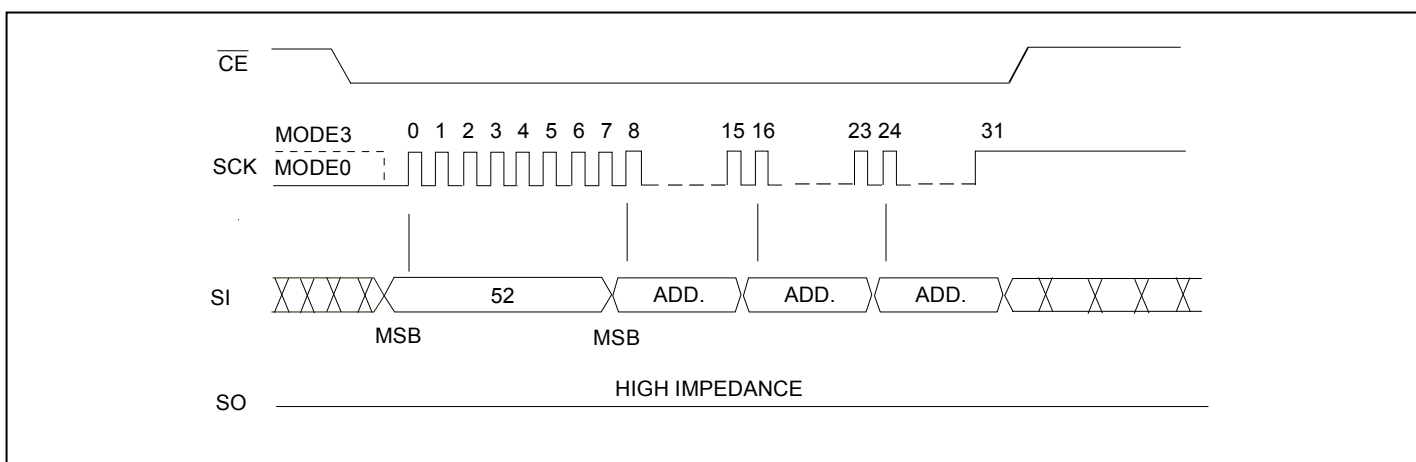

Figure 14: 32K-byte Block Erase Sequence
-A₀]. Address bits [A_{MS}-A₁₅] (A_{MS} = Most Significant address) are used to determine the block address (BA_x), remaining address bits can be V_{IL} or V_{IH}. \overline{CE} must be driven high before the instruction is executed. The user may poll the BUSY bit in the Software Status Register or wait T_{BE} for the completion of the internal self-timed Block Erase cycle. See Figure 14 for 32K Byte Block Erase sequence.